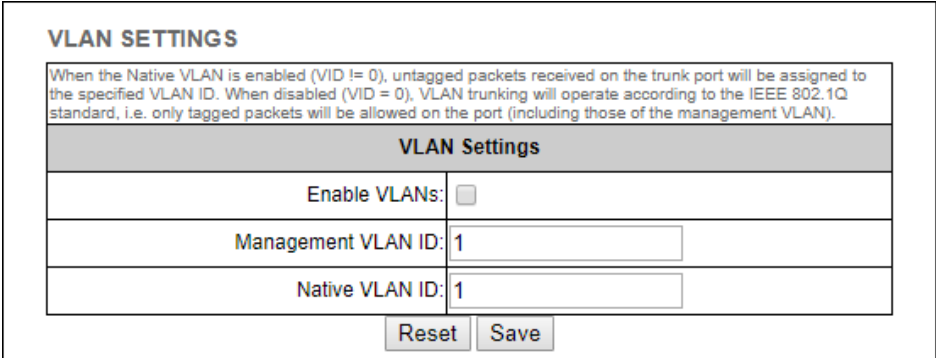

Figure 33. Configurator GUI (VLAN SETTINGS dialog)
- The **VLAN SETTINGS** dialog will be shown (Figure 33 \(page 79\)).